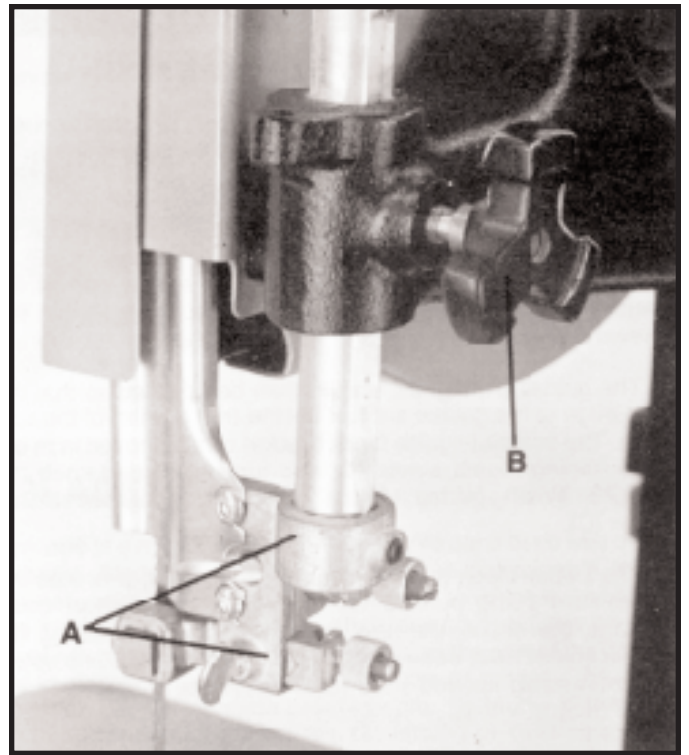

Fig. 43
The upper blade guide assembly (A) Fig. 43, should always be set as close as possible to the top surface of the material being cut by loosening lock knob (B) and moving the guide assembly (A) to the desired position.